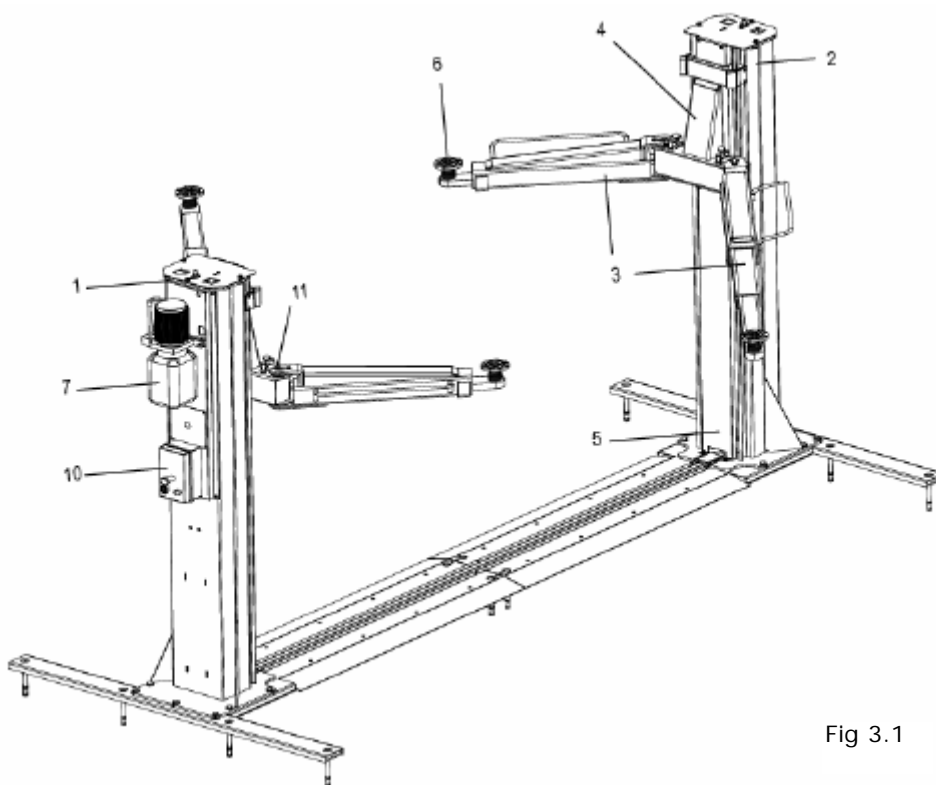

Fig 3.1
3. BESCHRIJVING HEFBRUG (Fig 3.1)